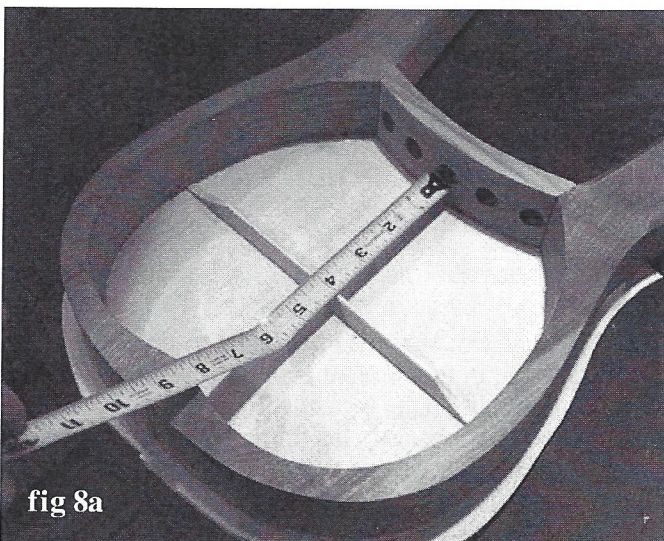

fig 8a
8. When the soundboard is dry, test-fit the inner brace as shown (fig 8a). The brace should be located 4 inches below the inside of the top cap. You may need to shorten it a little to get it to fit. Make sure to also remove any dried glue blobs inside the frame that are in the way of the brace. A sharp chisel should work well for cleaning those off to allow for the brace to sit flat on the inside of the soundboard.